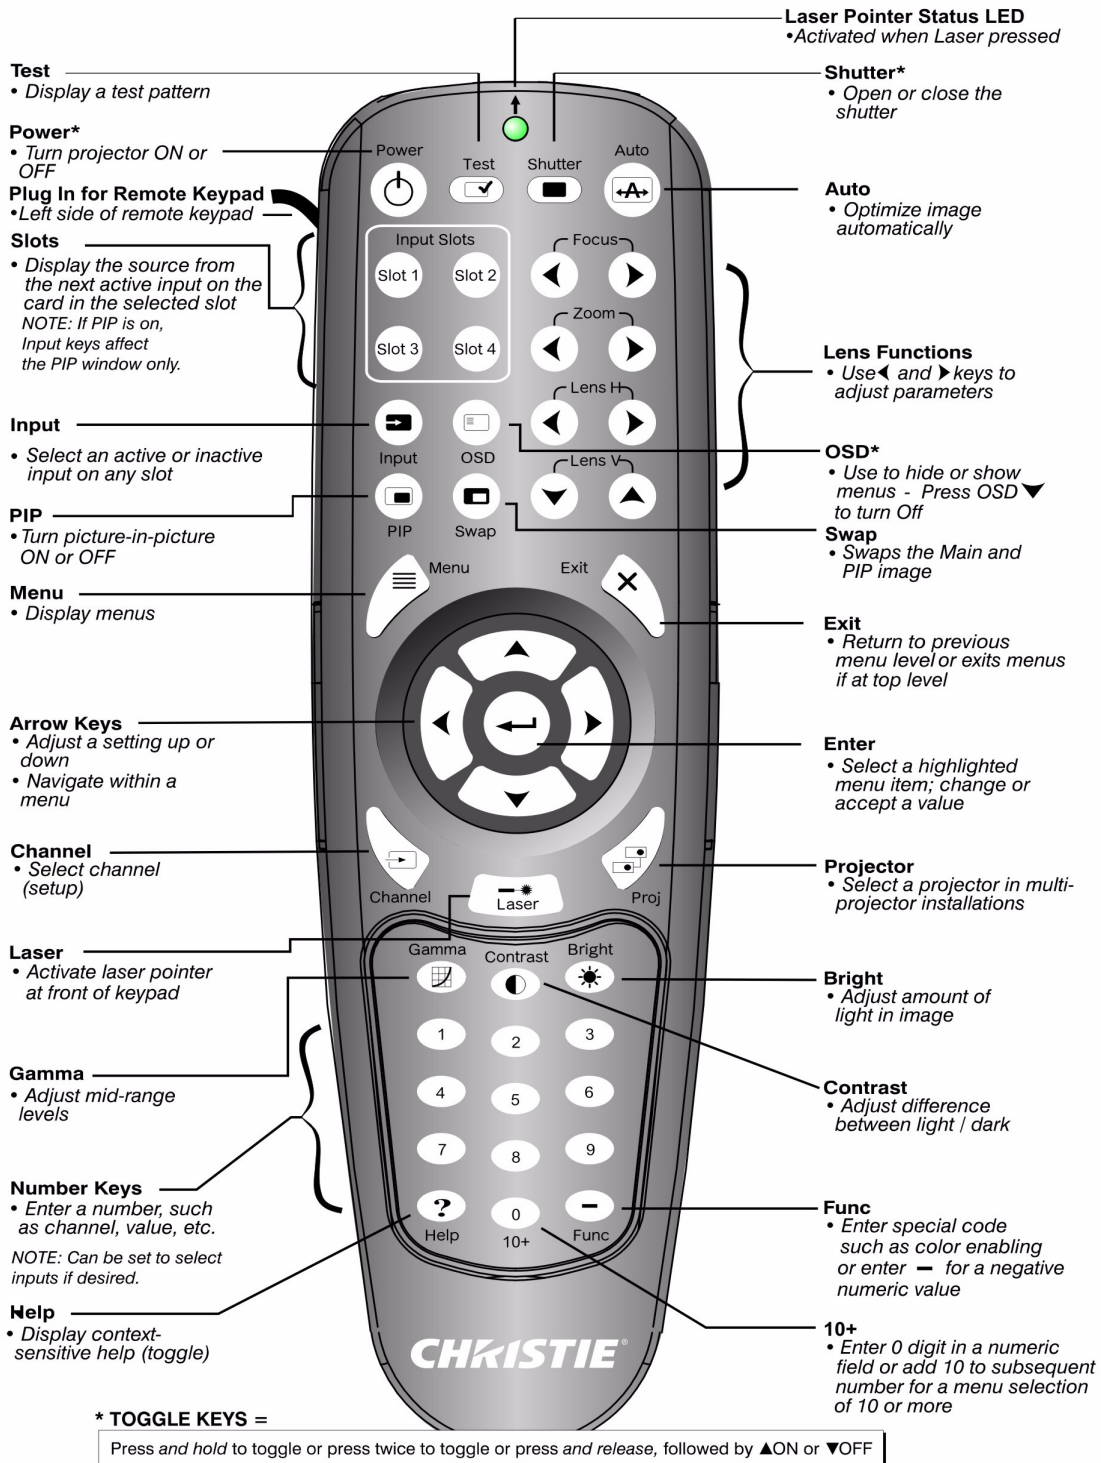

FIGURE 3-1 - REMOTE KEYPAD
- **Remote Keypad** for wired or wireless control up to 25 feet (8m) away (includes cable for use as a wired remote), see Figure 3-1 - Remote Keypad.
Press keys one-at-a-time; there are no simultaneous key combinations required. **NOTE:** POWER, SHUTTER, and OSD function by: “press-and-hold” (2 seconds), press twice quickly, or press UP ARROW KEY to switch on or press DOWN ARROW KEY to switch off, see Figure 3-1 - Remote Keypad.
Refer to the key descriptions provided for the remote keypad, see Figure 3-1 - Remote Keypad.
Specific keypad commands are explained, see Figure 3-1 - Remote Keypad: